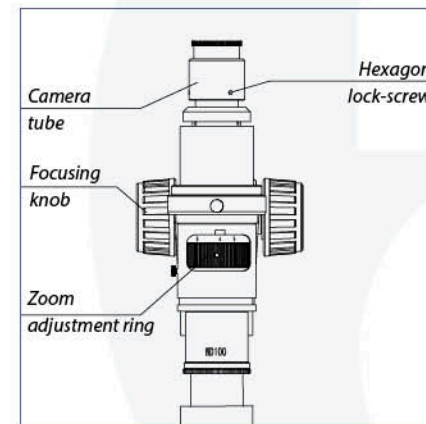

fig. 5
- 1 Rotate the zoom adjustment ring to the maximum magnification (see fig. 5)